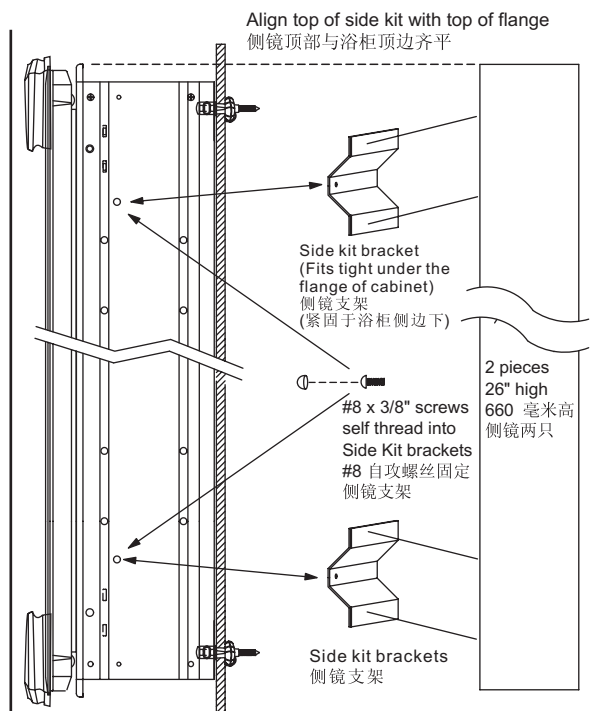

Fig. 10 图10
B. Attach the side kit brackets to the cabinet as shown in Fig.10
B. 如图10所示安装侧镜支架。